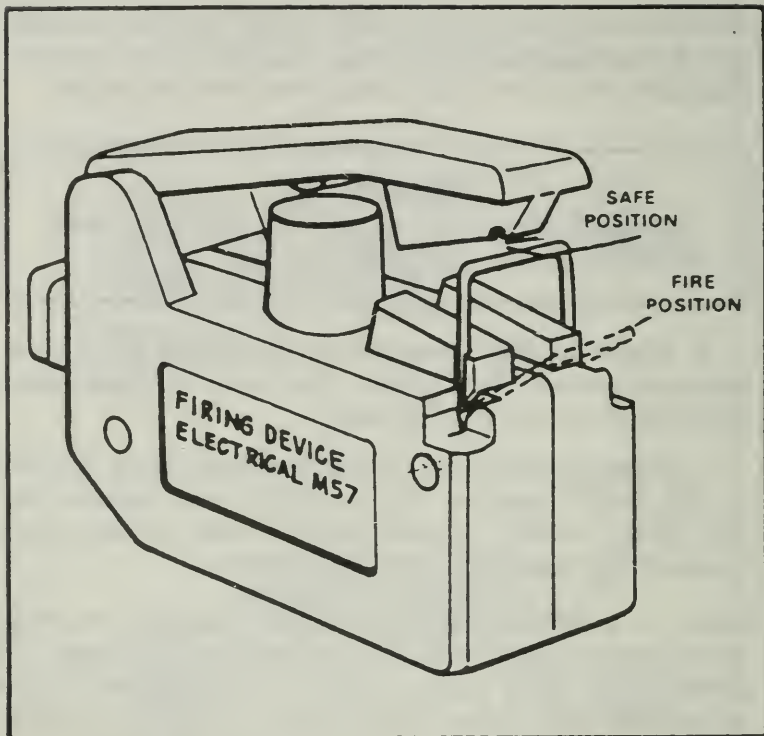

Figure 205. Firing device in the SAFE position.
c. After checking the complete circuit, place the bail in the SAFE position (Figure 205), then remove the M57 firing device. Remove the M40 test set and place the shorting plug back on the firing wire.
7. Fire the mine. To fire the mine, remove the dust covers from the firing device and firing wire and connect the two. Position the firing device safety bail in the FIRE position (Figure 205), then actuate the firing device handle with a firm, quick squeeze.